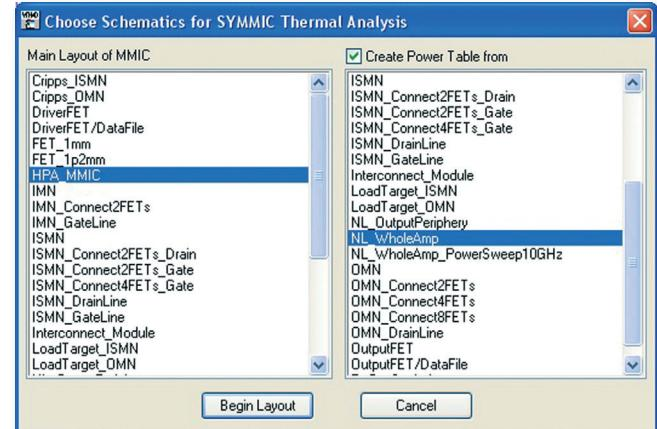

Figure 3. SYMMIC thermal analysis script - dialog 1:
1. First, run the script from the Script pull-down menu. Depending on how the script was installed in the AWR Design Environment, this script will appear in different places: global scripts or project scripts. (See the AWR Design Environment User Manual if you cannot find the script or the proper procedure for its installation.) The script begins by prompting you for the layout that will be used for the physical data and the schematic that will be used for the electrical information (figure 3).
3. Click Begin Layout. Two windows open. SYMMICLayout is a datafile window, which will be populated xml information describing the FETs and their location. SYMMICPwr is a table-formatted graph which will display the annotated power information from the TOT_PWRA annotations for the devices you select. Note: If you do not select the Create Power Table From checkbox in the dialog (figure 3), then the graph will not be created. The graph does not need to be created as the information can be read directly from the related schematic and entered manually in SYMMIC.